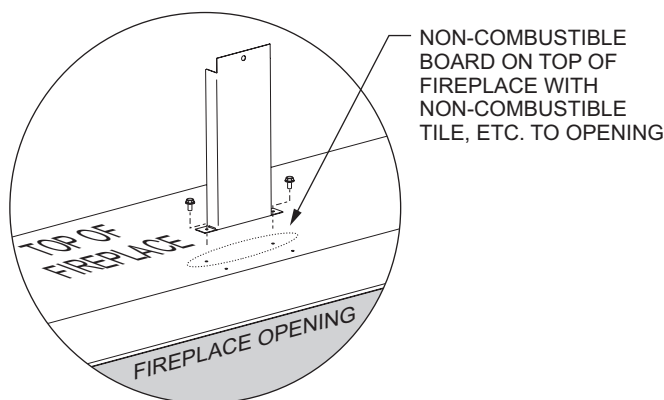

Figure 39
This type of installation will allow you to apply tile, marble, stone or other non-combustible material over the face of the fireplace cabinet, up to the flange opening. See Figures 39 and 40.
3. Secure the standoff brackets to the fireplace top with six screws as shown in Figure 39. The screws are located in the hardware packet inside the envelope pack. There are holes located in the top of the fireplace for each standoff bracket. The hole closer to the front edge of the fireplace is for mounting noncombustible board around the opening (Finishing Option 1). The other hole is for mounting the non-combustible board flush to the fireplace face (top, side and bottom) (Finishing Option 2).